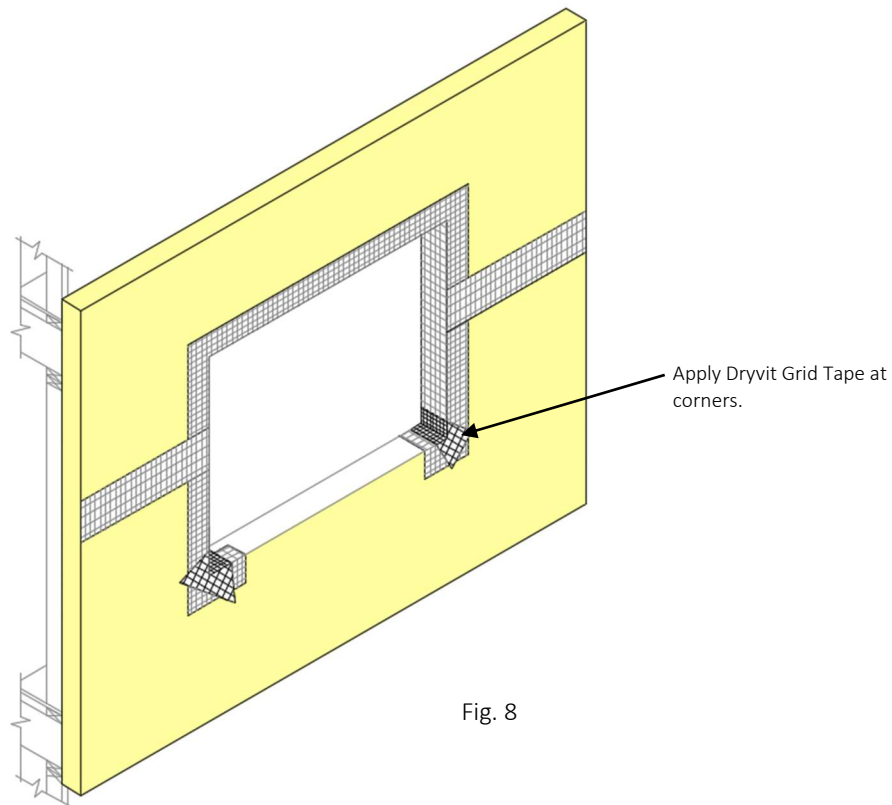

Fig. 8
- 1) Apply Dryvit Grid Tape along the jambs and head of the opening as well as all sheathing joints that may intersect the opening and lap onto face of wall a minimum of 2 in (51 mm). Add additional pieces of Grid Tape at the inside corners of the opening to maintain continuity – **Figure 8**.